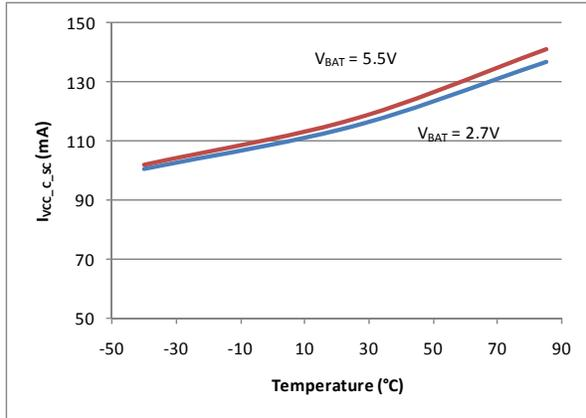
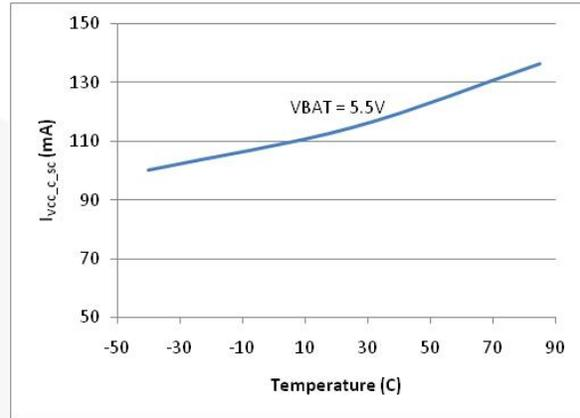
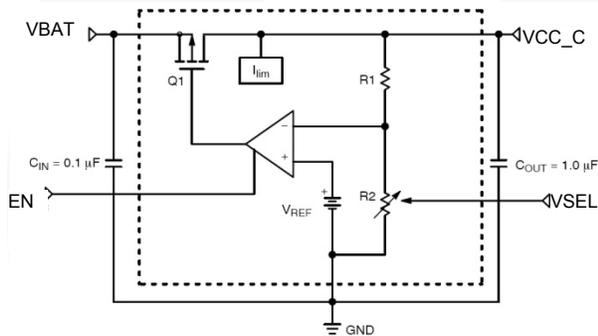

Figure 4. Short-Circuit Current, ($I_{VCC_C_SC}$) vs. Temperature $V_{CC_C}=1.8V$ ($V_{SEL}=LOW$)
Figure 5. Short-Circuit Current, ($I_{VCC_C_SC}$) vs. Temperature $V_{CC_C}=3.0V$ ($V_{SEL}=HIGH$)
Figure 8. Simplified Block Diagram of the LDO Voltage Regulator
FXLP4555 has a shutdown input (EN) that allows it to turn off or turn on the regulator output. Figure 8 shows a simplified view of the voltage regulator. The VCC_C output is internally current limited and protected against short circuits. The short-circuit current ($I_{VCC_C_SC}$) is constant over the SIM Card V_{CC} and V_{BAT} , while it varies with operating temperature, typically in the range of 90mA to 140mA (Figure 4 and Figure 5).